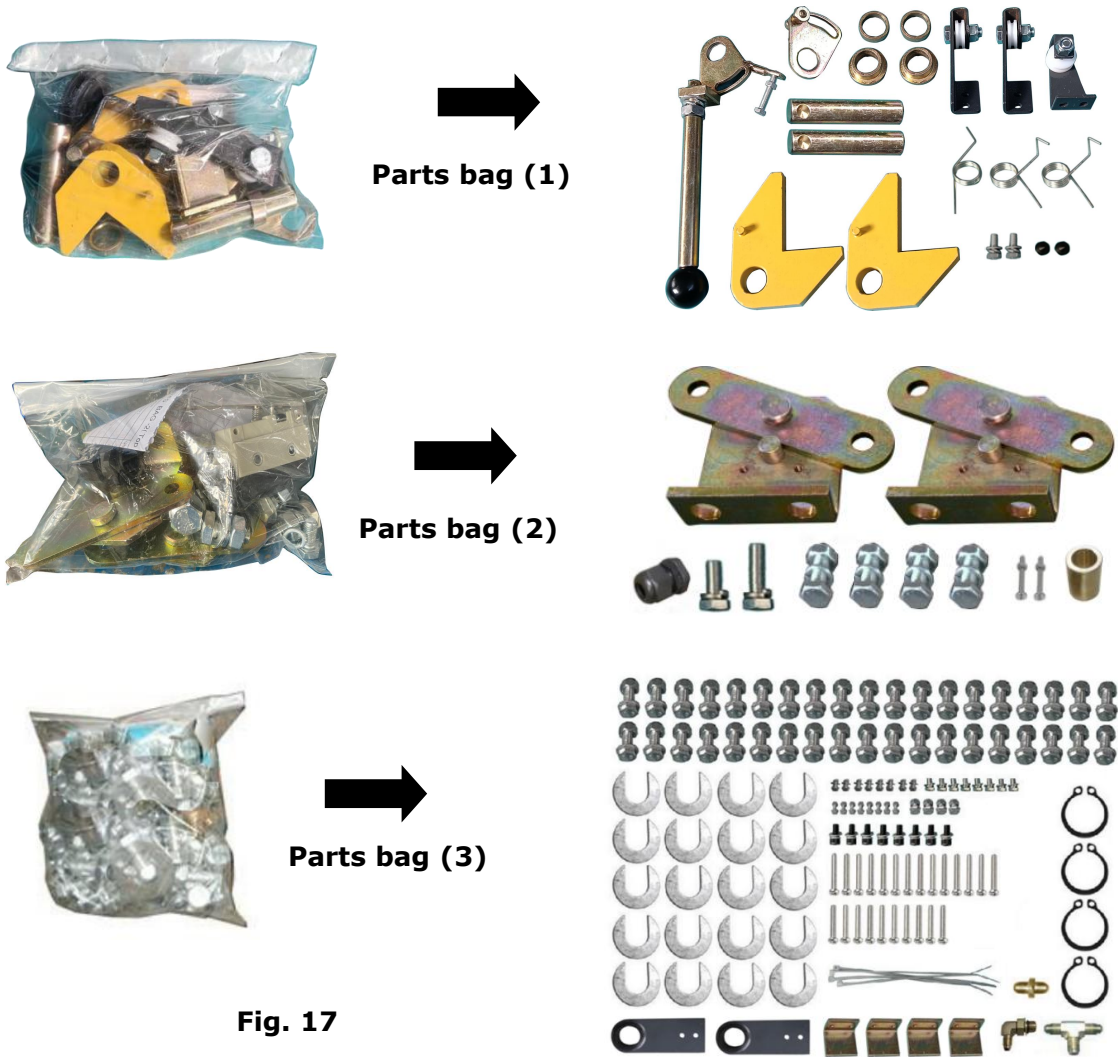

Fig. 17
7. Check the parts of the parts bag 1,2,3 according to parts bag list. (See Fig. 17)